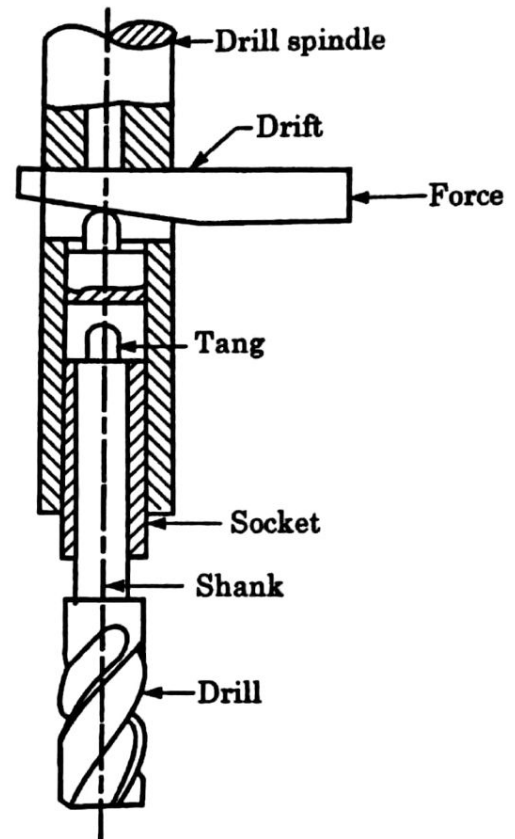

Fig. 2.32 : An Assembly Showing Drill, Socket and Drill Spindle With drift
1. **Direct Fitting :** The drill may be held directly in the spindle of the machine. The spindle of drilling machine is provided with a Morse standard taper hole of the size in proportion to the drilling size of the machine. The bigger size drills have shanks which will fit in the spindles. Fig. 2.32 shows an assembly of socket, drill, spindle and drift.